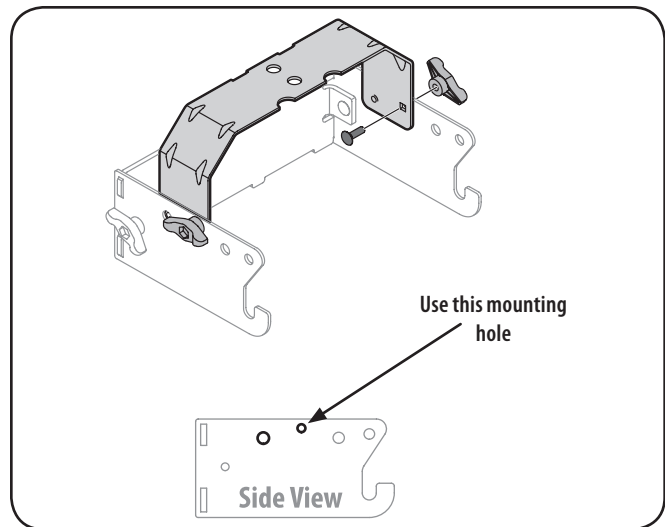

Figure 4-3
2. Flip over assembly and mount the hitch support bracket to the mounting assembly as shown in Figure 4-3.